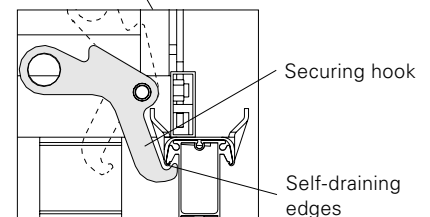

Fig. A9.12b
- The platform is additionally secured against tipping and lifting. (Fig. A9.12b)